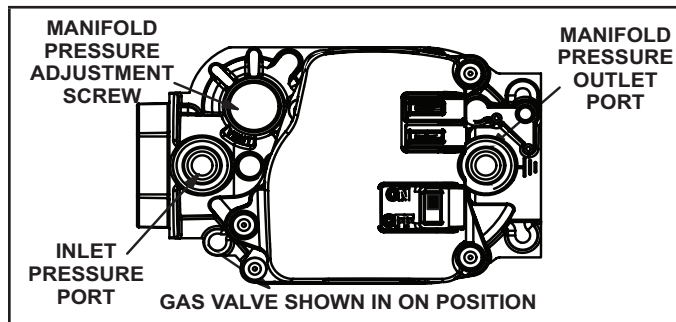

FIGURE 60
Gas Valve Operation (FIGURE 60)
- 6 - Move gas valve switch to OFF. See FIGURE 60.
- 8 - Move gas valve switch to ON. See FIGURE 60.